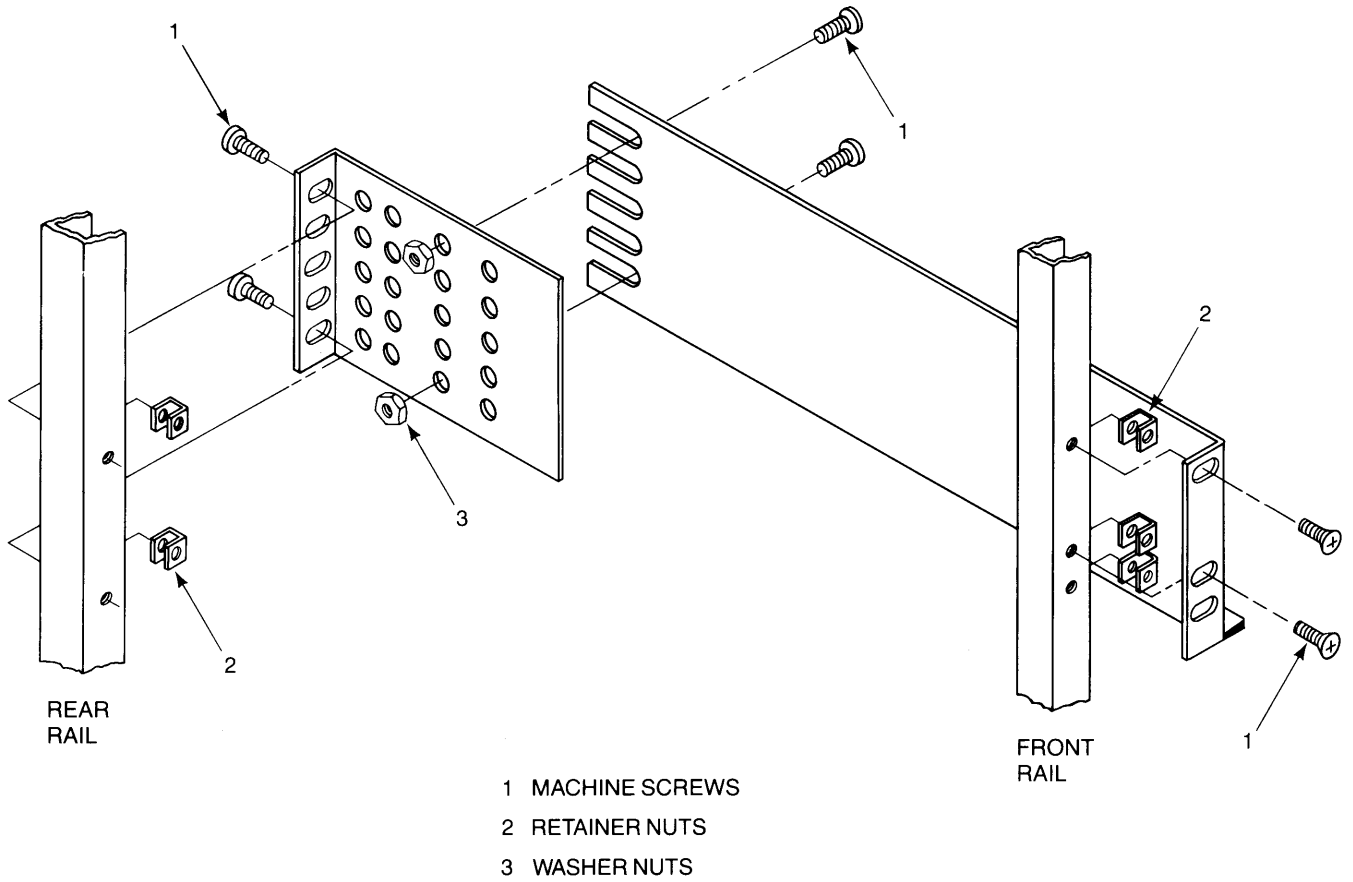

Figure 4-2. Installing Chassis Mounts
1. Attach the slim-line chassis mounts to your rack using the hardware supplied with the mounts. Note that the left and right rear extender brackets are not interchangeable. Figure 4-2 illustrates the correct relationship of the rack mounting components.